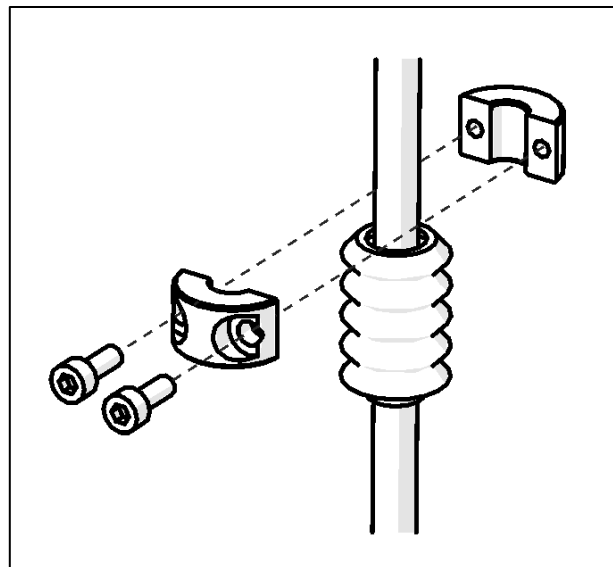

Figure 5
- Collar **#504030** is split in two parts with two screws to secure the assembly. (Fig.5)